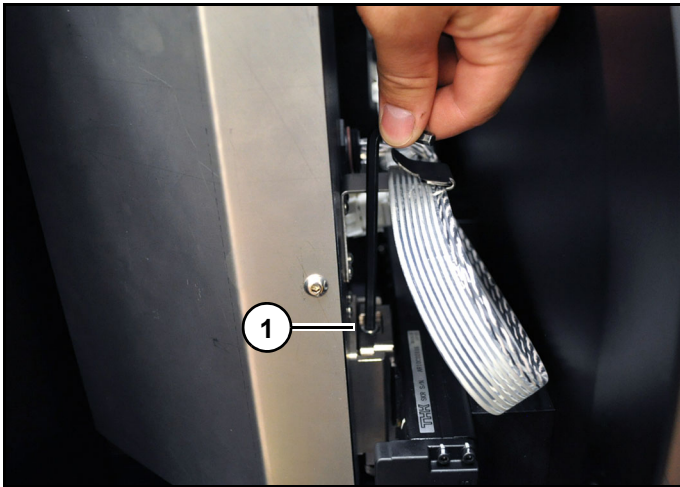

Figure 10
Ensure top screw (1) (*Figure 10*) on optical reader is tight by using an M5 hex wrench.